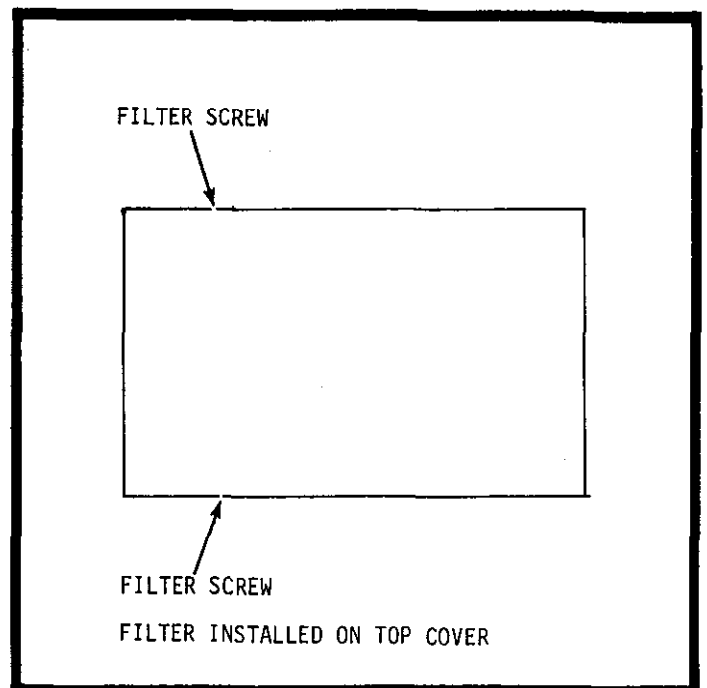

FIGURE 4. Location of Air Filter.
3. Filter Replacement. The air filter in the Model 227 is located as shown in Figure 4. The filter should be cleaned or replaced at least once per month under laboratory conditions, or more often when used in industrial environments. The filter can be checked and replaced by removing the top cover. Replace with Keithley Part No. 25791.